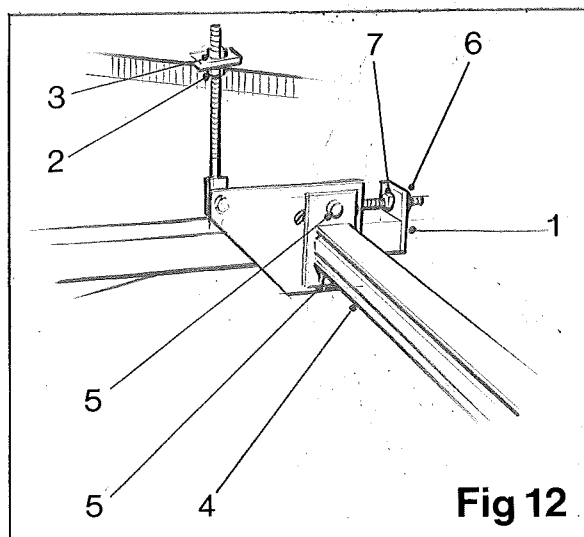

Fig 12
The topping unit frame is adjustable for height. The height of the topping unit is determined by the depth at which the harvester is lifting beet. As a general rule, the topping unit frame (item 1, fig 12) should run parallel with the ground, after the depth of lift has been established. To adjust the height, slacken the lock nuts (item 2, fig 12) and turn the adjuster nuts (item 3, fig 12) until the required height is reached. Ensure both sides are adjusted equally.
The pitch of the scalper unit is adjustable by pivoting the tool bar (item 4, fig 12). To adjust the tool bar, slacken the retaining bolts (item 5, fig 12) and the two lock nuts (item 6, fig 12) and turn the adjuster nuts (item 7, fig 12) to give the correct pitch.